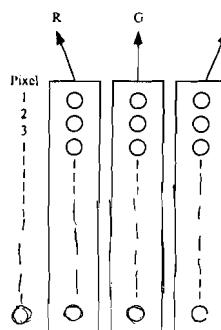

Figure 4: Colour Planes
*Colour Depth* (or the number of *Colour Planes*) is the number of bits assigned to each pixel to code colour information in it. These are also called *Colour Planes* because each bit of a pixel represents a specific colour and the bit at the same position on every pixel represents the same colour. Hence, the bits at the same position can be thought of as forming a plane of a particular colour shade and these planes piled on top of each other give the final colour at each point. Thus, if each pixel is described by 3 bits, one each for red, green and blue colour, then, there are 3 *Colour Planes* (one each for red, green and blue) and 6 colour planes if there are 6 bits — see Figure 4.
1. Redraw Figure 4 showing Colour-Planes for a true-colour system.